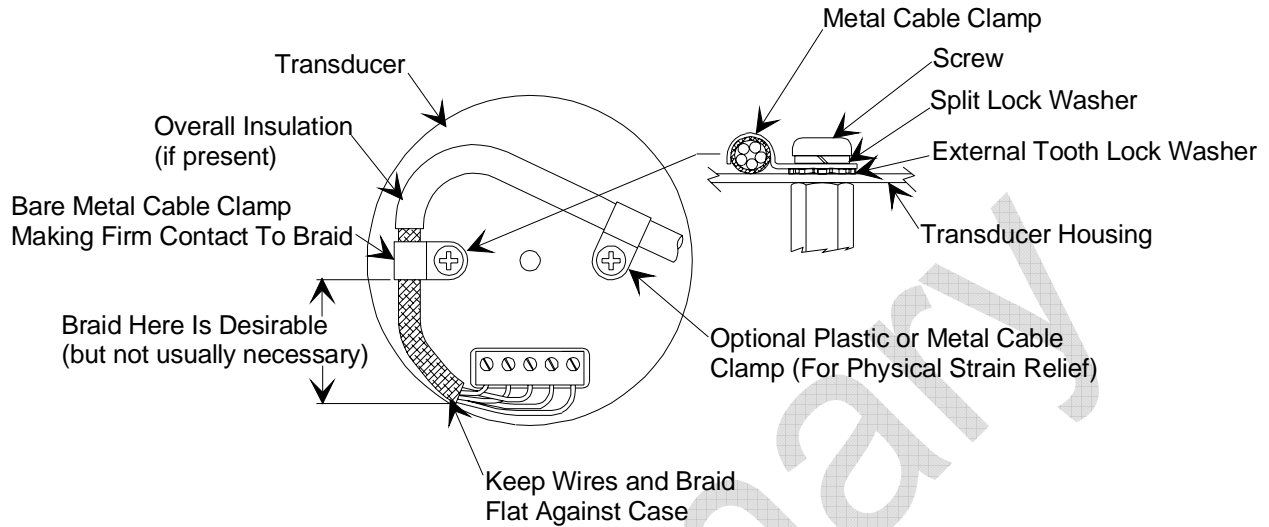

Figure 1: Preferred Method To Connect an Overall Braided Shielded Cable
4. For shielded cables with flying leads at one or both ends; it is important at each such end, to ground the shield *before* the wires exit. Make this ground with absolute minimum length. Refer to Figures 1 and 2, page 22. (A ¼ inch piece of #22 wire may be undesirably long since it has approximately 5 nH of inductance, equivalent to 31 ohms at 1000 MHz). After picking up the braid's ground, keep wires and braid flat against the case. With very few exceptions, grounded metal covers are not required over terminal strips. If one is required, it will be stated in the Declaration of Conformity or in the instruction manual.